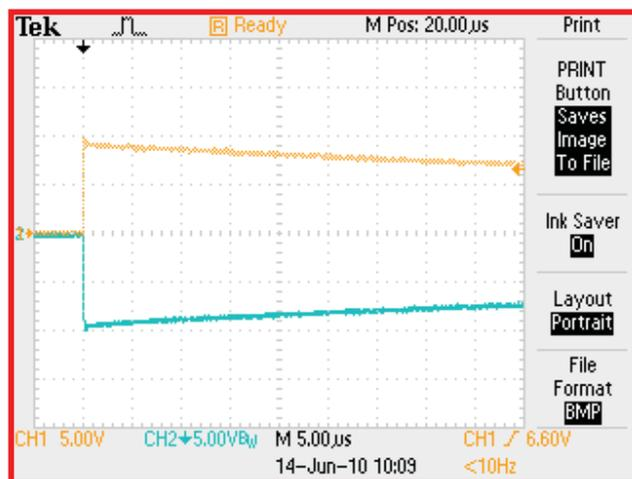

Figure 6.0-5: Differential voltage set up waveform
4. Initiate a discharge by either depressing the DISCHG switch on the front panel or by activating the foot switch. ΔV testing can only be performed in the Manual mode. Observe the waveform. It should look similar to that shown in Figure 6.0-5. If the signal is off scale change the vertical sensitivity of both channels and repeat the measurement.